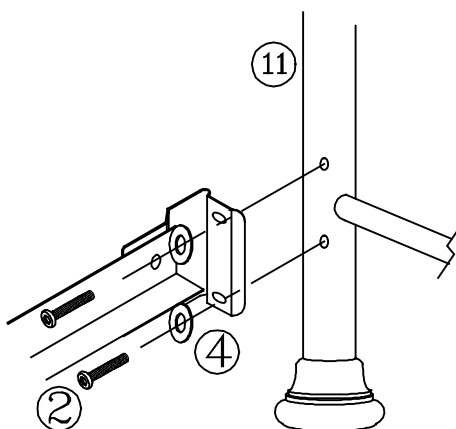

FIGURE 3
- Position footboard panel (11) and align holes in the post with holes in the frame bracket. (See figure 3)
- Place flat washer (4) on each screw (2). Insert through bracket and into post. Hand-tighten, DO NOT TIGHTEN screws all the way.
- Tighten all screws securely using the Allen wrench (5).